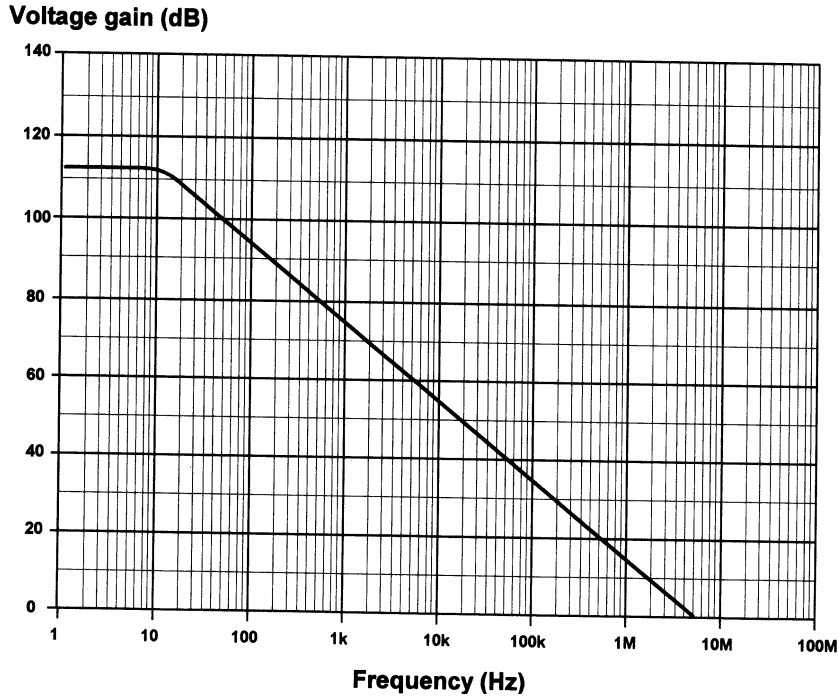

Figure 8.18
- 8.2 The open-loop frequency response of an operational amplifier is shown in Fig. 8.18. Determine: